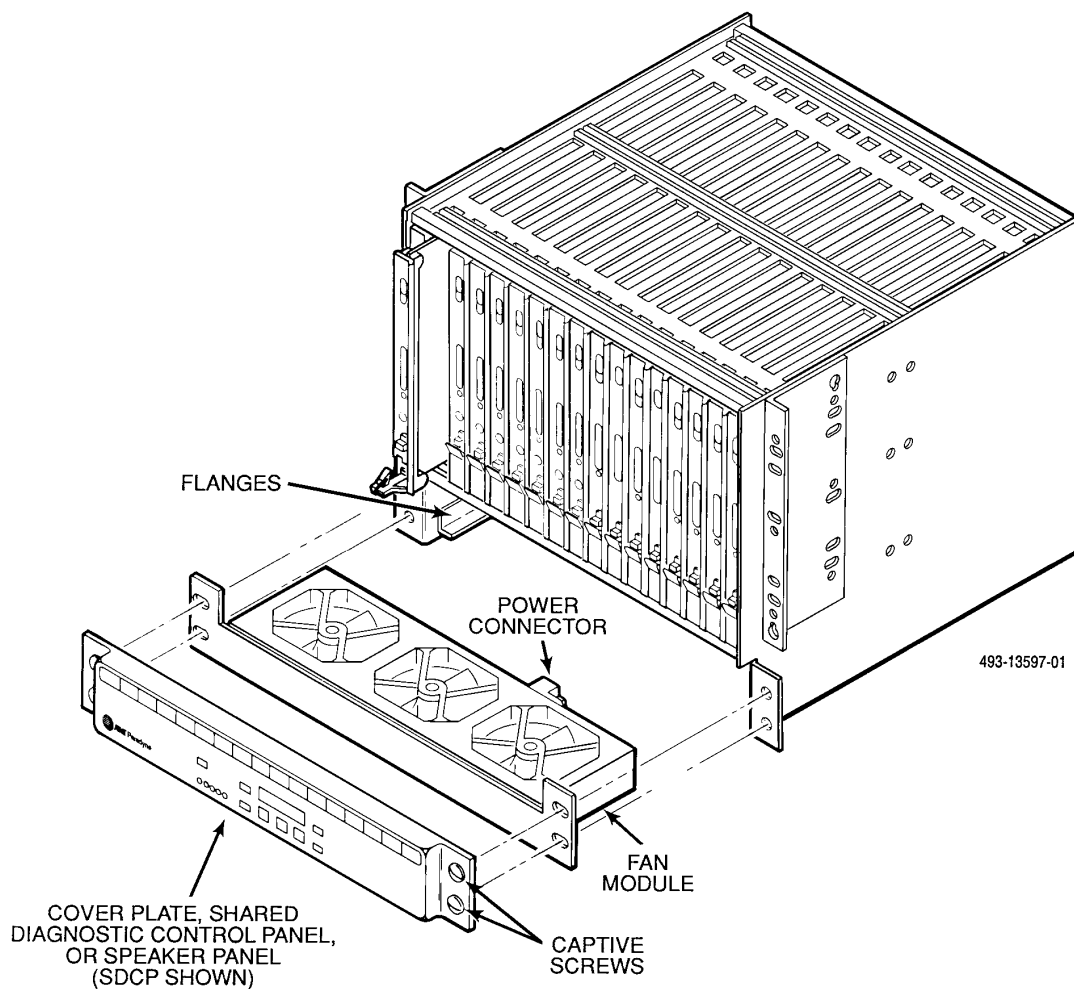
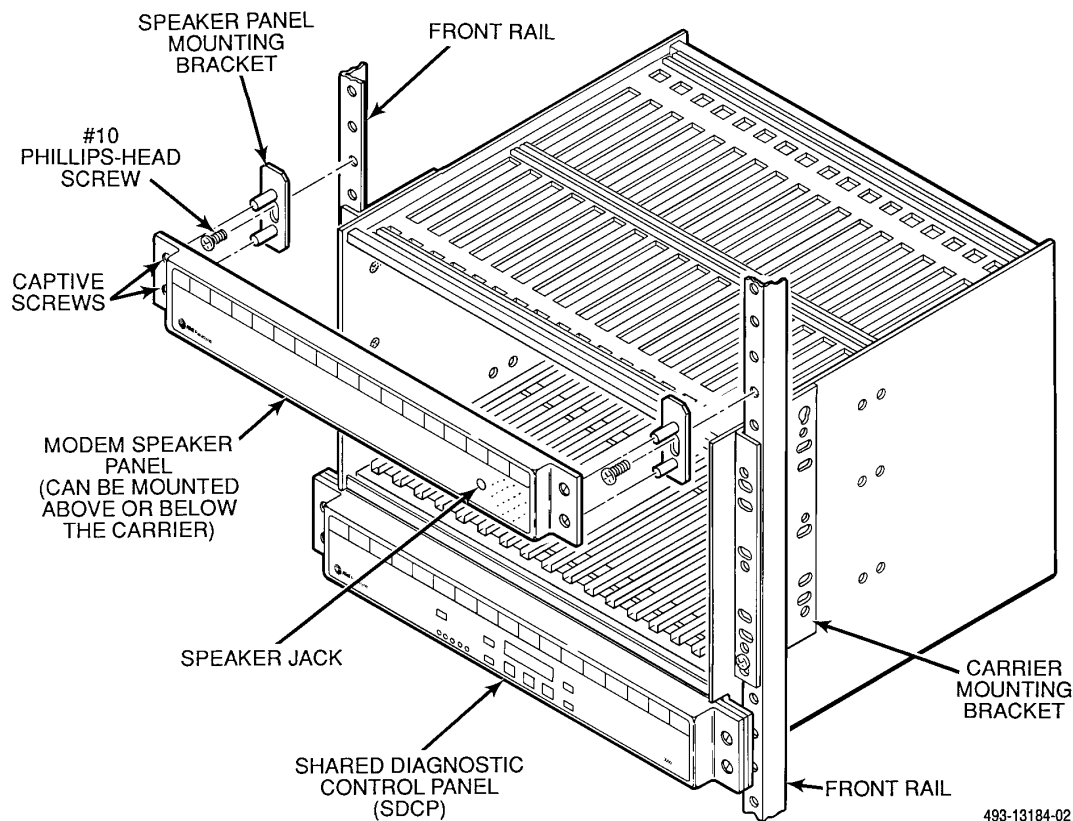

Figure 3-10. Fan Module Installation
Figure 3-13. Models 3811/3911 Speaker Panel Installation Directly to Cabinet Rails
1. If the fan module is being installed after the carrier has been installed, loosen the four captive screws (see Figure 3-10) that attach the cover plate to the carrier and remove the cover plate. If an SDCP is not being installed, set the cover plate aside for reinstallation after the fan module has been installed.
2. Place the fan module on the flanges (Figure 3-10) at the bottom of the carrier with the power connector facing the mating power connector on the installed power transformer unit. Slide the fan module into the carrier until the power connectors engage firmly.
An optional speaker panel can be installed to provide audio monitoring of any Model 3811 or 3911 dial/lease modem installed in a cabinet of COMSPHERE 3000 Series Carriers. If there is only one carrier in the cabinet and no SDCP is installed, the speaker panel can be mounted directly to the carrier in place of the cover plate (as shown in Figure 3-10). If there is more than one carrier in the cabinet, the speaker panel should be mounted on a carrier without the SDCP. If there is only one carrier in the cabinet and an SDCP is mounted on the carrier, the speaker panel may be mounted directly to the front rail, as shown in Figure 3-13.
If the carrier has a cover plate installed, use Figure 3-10 and begin at Step 1 of the following procedure. If the carrier has an SDCP installed, use Figure 3-13 and begin with Step 2 of the following procedure to mount the speaker panel to the cabinet's front rails.
1. To install the speaker panel directly to the carrier, remove the cover plate and then secure the speaker panel to the front of the carrier using its four captive screws. Use the same screw holes that held the cover plate in place (see Figure 3-10). Continue to Step 6.
2. To install the speaker to the cabinet's front mounting rails, first determine if you want to mount the speaker panel above or below the carrier. Then, fasten one of the speaker panel mounting brackets to a front mounting rail with a #10 Phillips-head screw (supplied). See Figure 3-13.